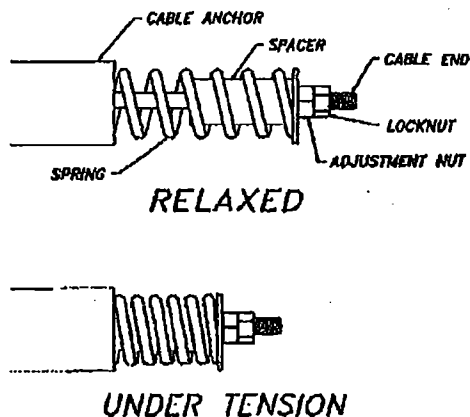

Figure 5
5. Adjust the retract cables to remove slack to the point that the cable cannot be easily moved by hand. Loosen the cable rod locknut and tighten the adjusting nuts, but do not tighten so much as to allow the metal spacers to contact the cable anchors. (See figure 5 below.) This would put tension on both the extend and retract cables at the same time, possibly causing excessive cable stretch or damage to other components. Retighten the locknut.